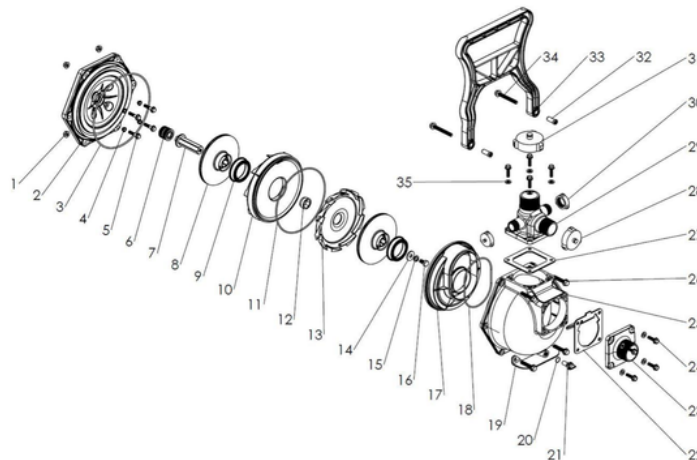
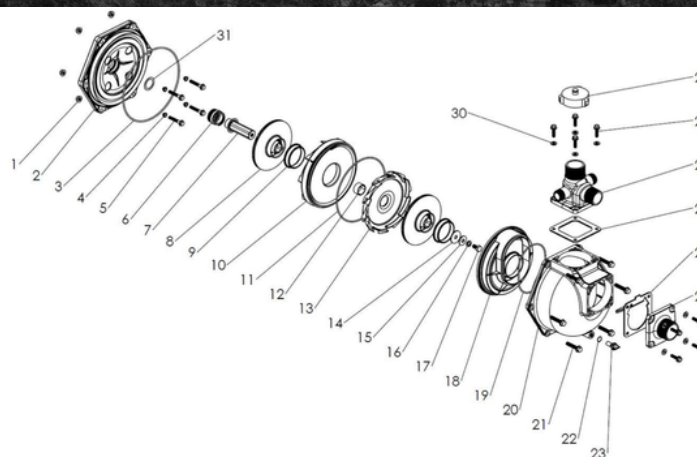

Figure 1: Exploded view of the VERSAX 6HP pump end (portable configuration).
Figure 2: Exploded view of the VERSAX 9 HP pump end (vehicle configuration).
NOTE: The following steps apply to both VERSAX 6 (Figure 1) and VERSAX 9 (Figure 2).
IMPORTANT: Part numbers referenced in the following service procedures correspond to the VERSAX 6 pump shown in Figure 1. When servicing a VERSAX 9 pump, use Figure 2 on page 6 to cross-reference the corresponding part numbers. Component locations and service procedures are otherwise similar.
1. Install the stationary portion of mechanical seal #6 in yoke #2. For VERSAX 9, install washer seat support #31 (Figure 2). It is recommended to replace the mechanical seal at each pump disassembly.